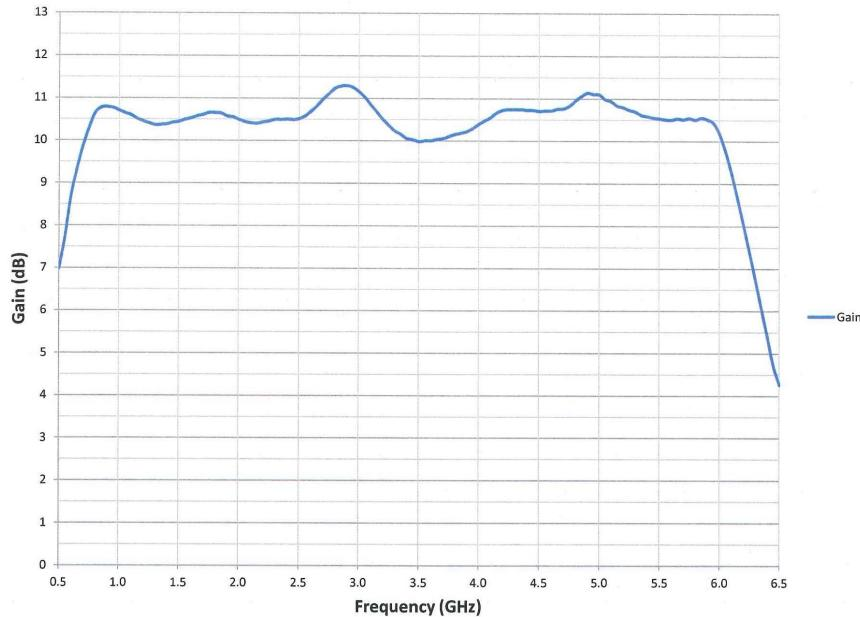

Figure 4-4. Typical Quad Amp Response
3. If the gain is slightly low (i.e., several dB below typical), try disconnecting the inputs from the A12 through A27 Quad Amps one at a time, then reconnect them. Note the difference in response when disconnecting the Quad Amps; if any Quad Amp causes less of a change in gain than the others, check the Quad Amp, coaxial cable, and so forth associated with that Quad Amp. Typical Quad Amp Response is shown in Figure 4-4.